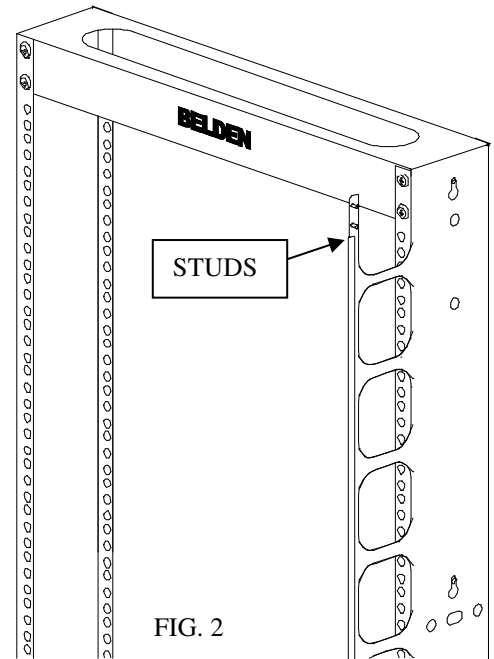

FIG. 2
- A. The *Vertical Cable Management Channel* is attached to the *frame channels*. The *vertical plate* is symmetrical and may be mounted on either side of the Communication Rack. Loosely insert one #10-32 x 3/8" truss head screw into the uppermost tapped hole on the middle (outside holes used for fiber model) of the *frame channel*, leaving at least 1/8" of threads exposed. In the same fashion, add a second screw directly below the first. Hang the *vertical plate* on the two screws by passing them through the upper two key ways on the *vertical plate*. See figure 2. **Note: The upper and lower threaded studs point away from the rack.**